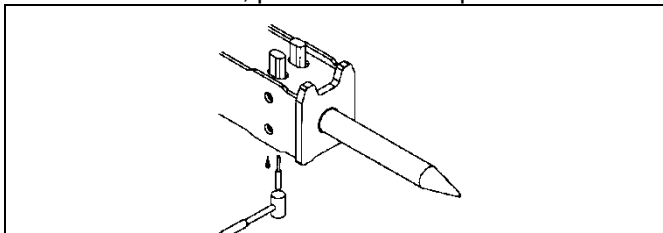

Fig. 10-4 Remove large retainer pins
6. Remove large retainers and set aside. [Fig. 10-4]